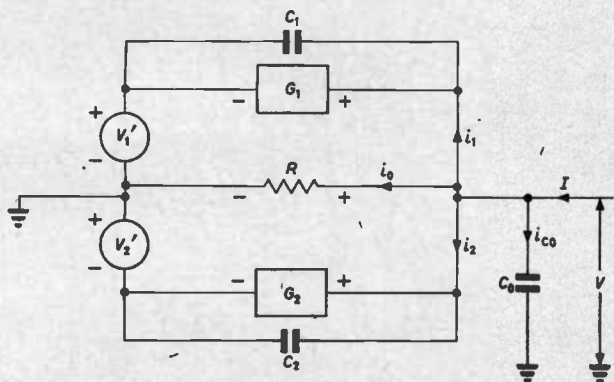
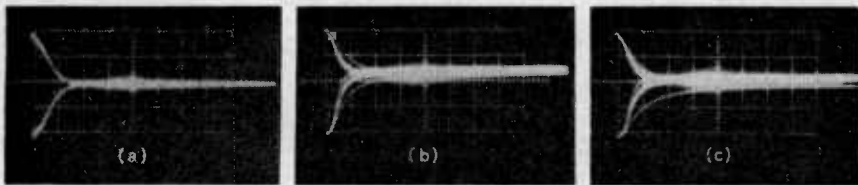

Fig. 6. Equivalent circuit
Fig. 9. Experimental output response to unit step drive
Fig. 6 shows the equiva-
The currents in Fig. 6 are expressed as:
In Fig. 9, the observed data corresponding to Fig. 8 are shown*, and they are in good agreement. This fact shows the validity of the computer calculations as well as of the equivalent circuit shown in Fig. 6 for equation (11).
If $dV'/dt \ll 0$, the capacitance $C (= C_0 + C_1 + C_2)$ in Fig. 6 is inclined to sustain the value of v , therefore the operating point moves along the dotted line different from the line (3).